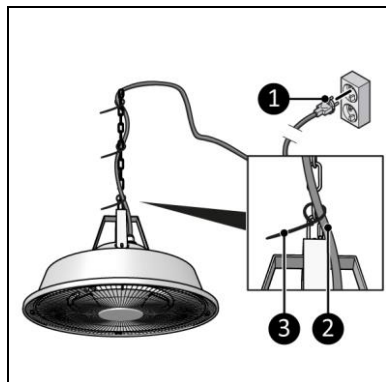

Figure 9
2. Place the power cable (Figure 9, pos.2) along the hanging chain using tie wraps (Figure 9, pos. 3).
3. Place the power plug (Figure 9, pos. 1) into an earthed wall socket that is easily accessible. Use an earthed wall socket with a minimum power of 1500 Watt.
1. Place the power plug (Figure 9, pos. 1) into an earthed wall socket that is easily accessible. Use an earthed wall socket with a minimum power of 1500 Watt.
1. Disconnect the power plug from the power outlet (Figure 9, pos. 1).